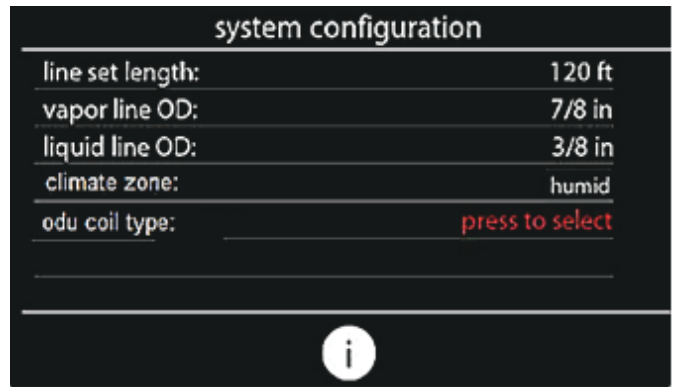
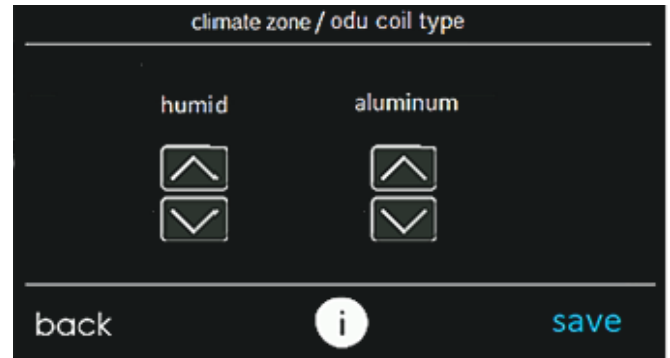
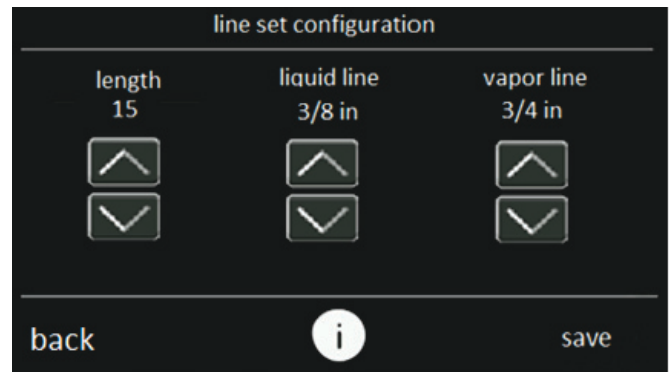

Fig. 9 – System Configuration Screen
Fig. 10 – Select Environment and Material
Fig. 11 – Select Lineset Configuration
3. The Infinity® System Control will proceed through a series of setup screens. Follow these setup screens to correctly configure the indoor unit, lineset configuration, climate zone, and outdoor unit coil material (Fig. 9). Selecting a line in the system configuration screen will take the user to the respective selection screen for the line item (Fig. 10 and Fig. 11). "Press to select" in red letters indicates the line must be pressed and the ODU material type chosen before learning can continue.